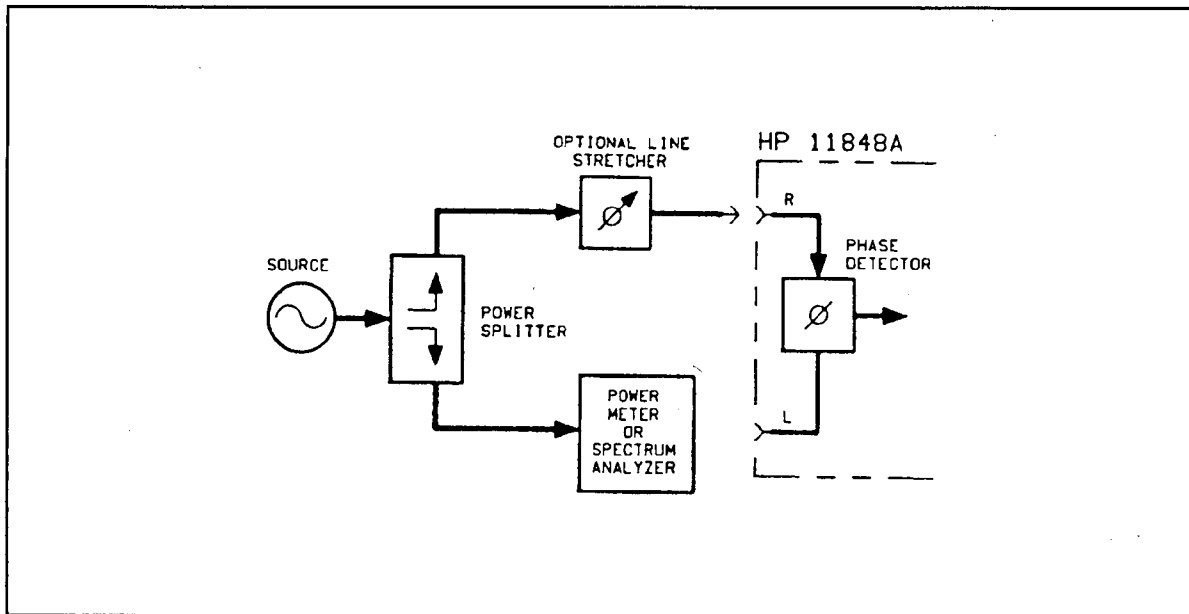

Figure 2-9. Measuring Power at Phase Detector L Port
4. If you are not certain that the power level at the L input port is within the range shown in the preceding graph, measure the level using the setup shown in figure 2-9.